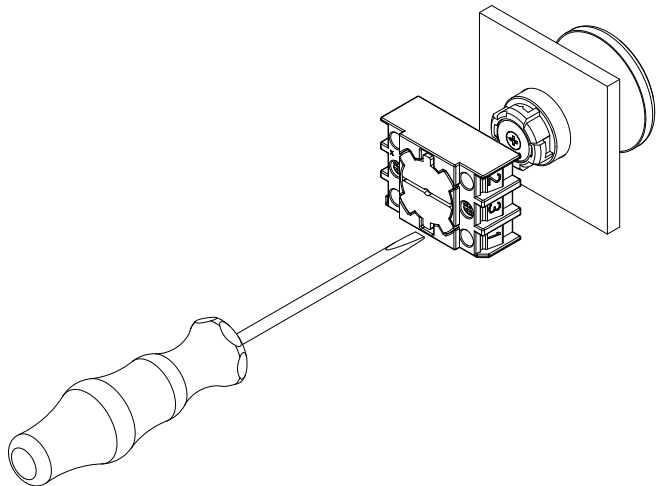

Fig. 4
2. Removal of the mounting flange is carried out by loosening both screws on the mounting flange. The mounting flange is then turned approx. 45° in anti-clockwise direction and removed (see fig. 4).